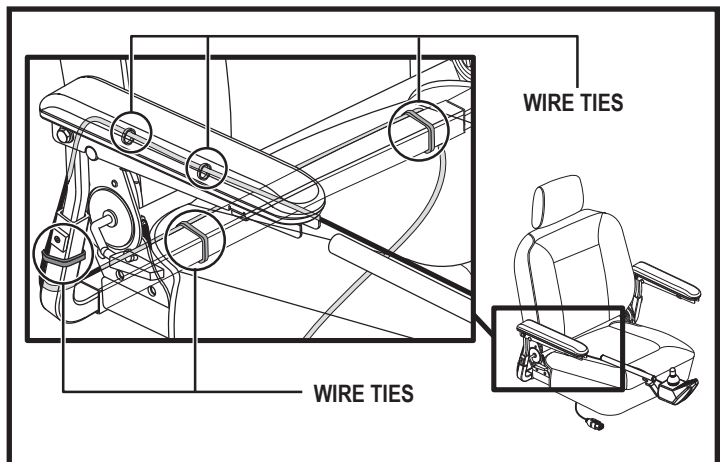

Figure 7. Controller Harness Routing
4. Install the controller and route the harness to the back of the seat. **See figures 7.**
6. Secure the controller harness to the armrest receiver with wire ties. **See figure 7.**